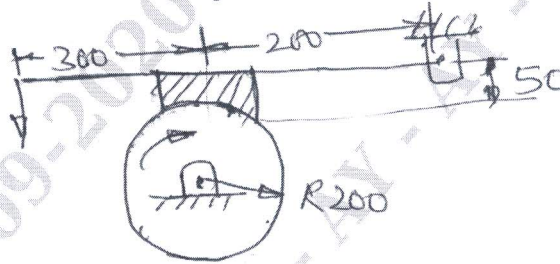

Fig. Q6 (b)
- b. A single block brake with a torque capacity of 250 N-mt as shown in figure Fig. Q6 (b) below. The brake drum rotates at 100 rpm and the coefficient of friction is 0.35. Calculate